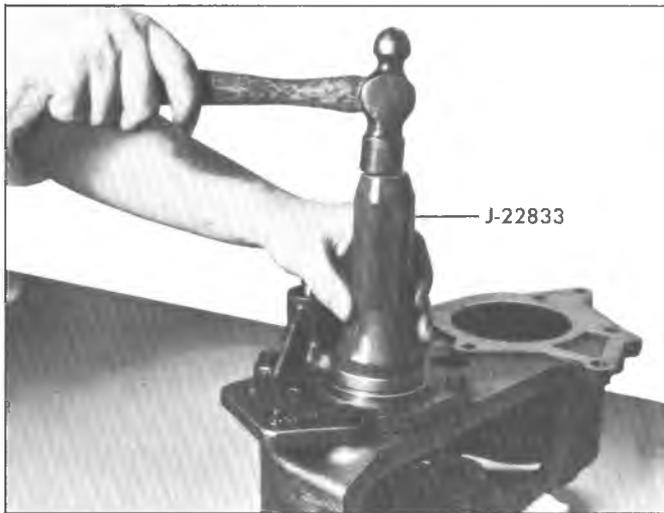

Fig. 15D--Installing Front Output Shaft Seal
14. Install front output shaft retainer seal using Tool J-22833 as shown in Figure 15D.